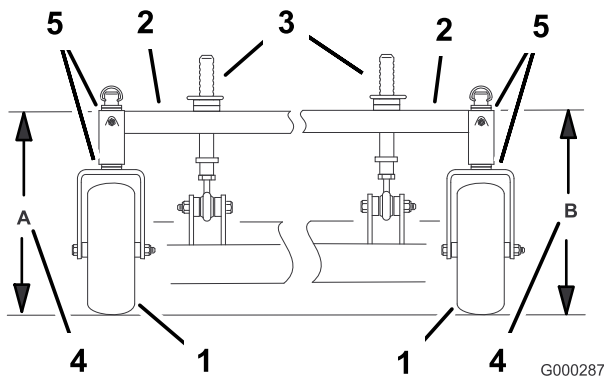

Figure 81
4. Measure carrier frame height at location **A** (Figure 81).
5. Measure carrier frame height at location **B** (Figure 81).